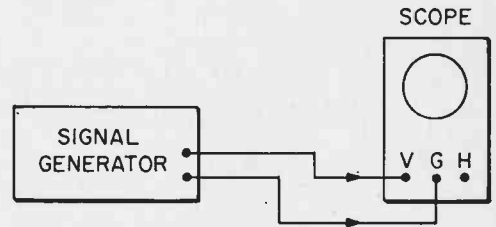

Fig. 15. Signal generator connect to oscilloscope's horizontal input terminals.
Higher frequency signal waveforms are observed by connecting the output of a signal generator to the scope's vertical input as shown in Fig. 15. If the signal generator is a sine wave audio frequency (AF) oscillator, we can look at its output waveform and note what readjustment of the scope is necessary as we change the frequency.
**Looking at RF.** If the signal generator is an RF oscillator and is connected to the scope as shown in Fig. 15, we can observe RF waveforms when the signal generator is set to produce an unmodulated signal. The highest frequency to which the signal generator can
RF and IF circuits, the waveform will look something like that shown in Fig. 15. When checking audio circuits, the waveforms of the music or speech will be seen.